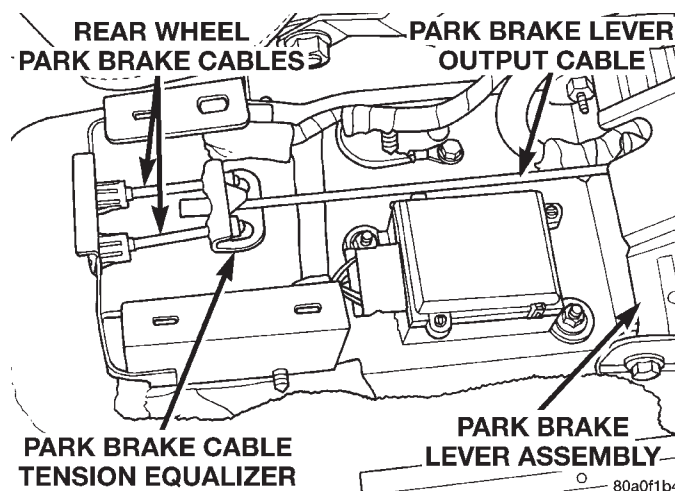

**Fig. 137 Park Brake Cables At Tension Equalizer**
(10) Remove both rear wheel park brake cables from the park brake cable tension equalizer (Fig. 137).
**NOTE:** If auto adjuster was not reloaded before removing the tension equalizer from both rear park brake cables, (Fig. 137) the park brake lever output cable (Fig. 137) will be pulled into the park brake mechanism.